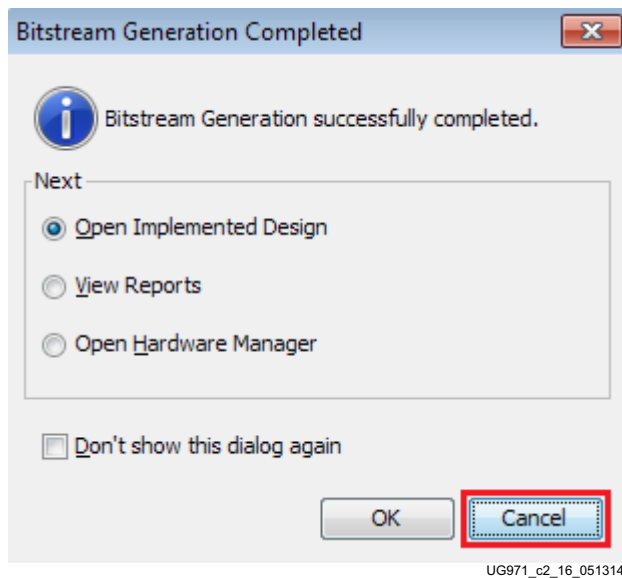

Figure 2-16: Bitstream Generation Completed
18. When the Bitstream Generation Completed dialog window appears, click **Cancel** (Figure 2-16).